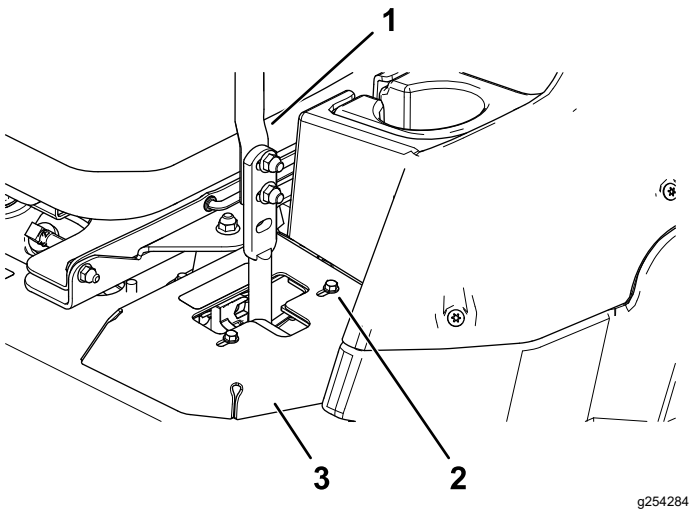

Figure 50
- If it tracks to the right, loosen the bolts and adjust the left stop plate rearward on the left T-slot until the machine tracks straight (Figure 50).
- If it tracks to the left, loosen the bolts and adjust the right stop plate rearward on the right T-slot until the machine tracks straight (Figure 50).
6. Tighten the stop plate (Figure 50).